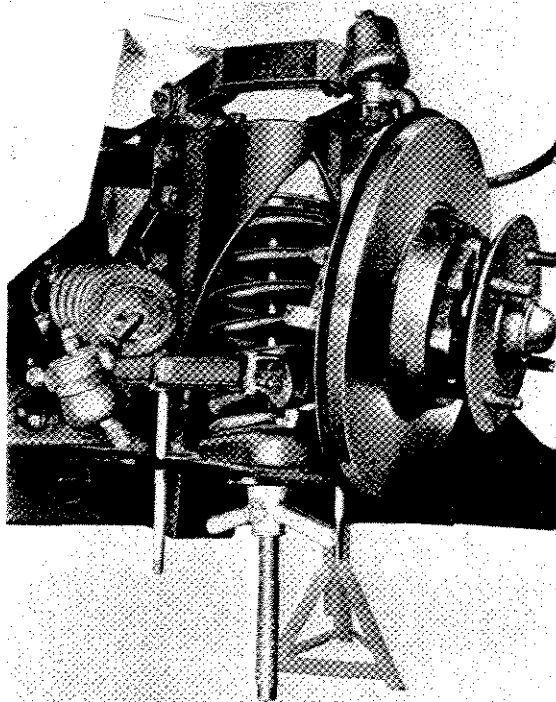

Fig. 8. Releasing the front spring
Compress the spring by tightening the wing nut until the lower wishbone arms are horizontal. Remove the bolts (62) and fit two $\frac{3}{8}$ " $\times$ 6" (9.5 mm. $\times$ 152 mm.) guide rods as shown on Fig. 8.